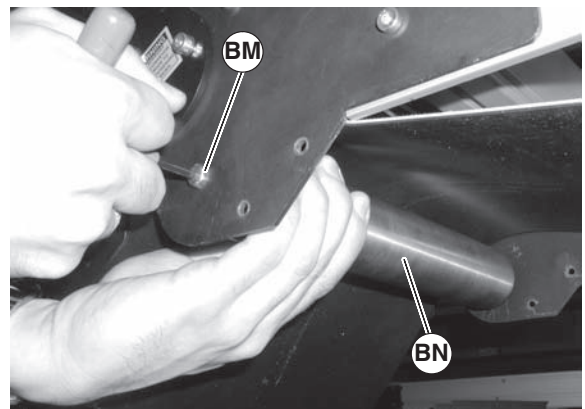

Figure 33
13. Push in hex posts (Figure 33, item BM) and remove roller (BN).